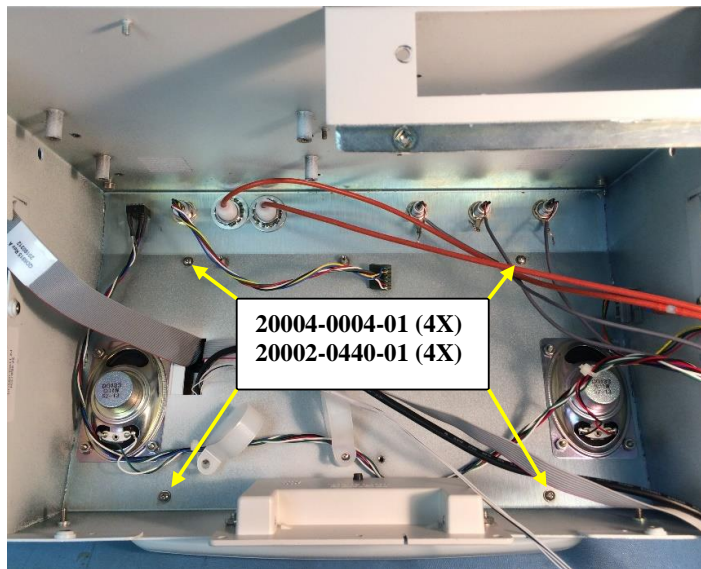

Figure 39
- 13.15. Secure the Bezel to the Chassis using four (4) 4-40x1/4" Pan Head Screws (20004-0004-01) and four (4) #4 Lockwashers (20002-0440-01) as shown in Figure 39. Torque the Screws to 5 inch pounds using a torque driver.